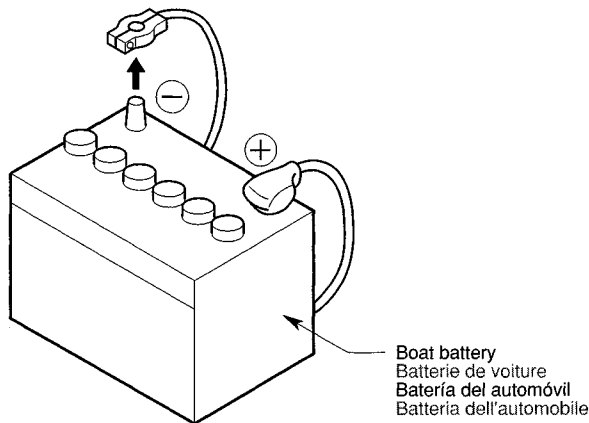

Figure 1 / Figure 1 / Figura 1 / Figura 1
3. Be sure to disconnect the battery "⊖" terminal before starting. This is to prevent short circuits during installation (Figure 1).
3. S'assurer de débrancher la borne "⊖" de la batterie avant de commencer. Cela évitera les court-circuits pendant l'installation. (Figure 1)